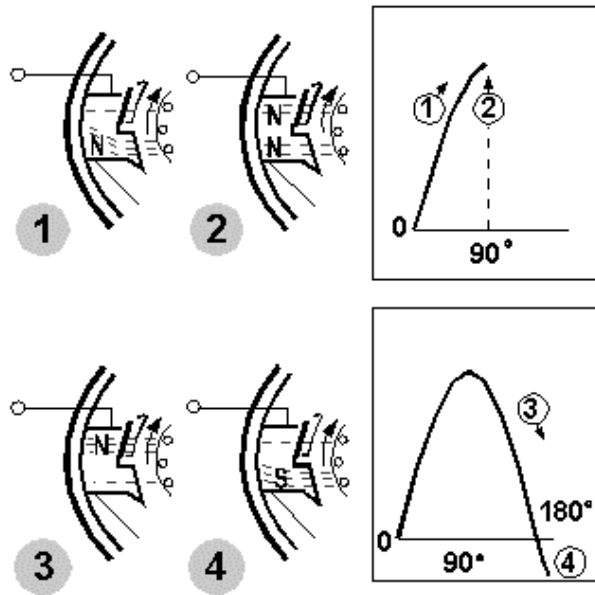

Figure 4-13.—Shaded poles as used in shaded-pole ac induction motors.
The shaded-pole induction motor is another single-phase motor. It uses a unique method to start the rotor turning. The effect of a moving magnetic field is produced by constructing the stator in a special way. This motor has projecting pole pieces just like some dc motors. In addition, portions of the pole piece surfaces are surrounded by a copper strap called a shading coil. A pole piece with the strap in place is shown in figure 4-13. The strap causes the field to move back and forth across the face of the pole piece. Note the numbered sequence and points on the magnetization curve in the figure. As the alternating stator field starts increasing from zero (1), the lines of force expand across the face of the pole piece and cut through the strap. A voltage is induced in the strap. The current that results generates a field that opposes the cutting action (and decreases the strength) of the main field. This produces the following actions: As the field increases from zero to a maximum at  $90^\circ$ , a large portion of the magnetic lines of force are concentrated in the unshaded portion of the pole (1). At  $90^\circ$  the field reaches its maximum value. Since the lines of force have stopped expanding, no emf is induced in the strap, and no opposing magnetic field is generated. As a result, the main field is uniformly distributed across the pole (2). From  $90^\circ$  to  $180^\circ$ , the main field starts decreasing or collapsing inward. The field generated in the strap opposes the collapsing field. The effect is to concentrate the lines of force in the shaded portion of the pole face (3). You can see that from  $0^\circ$  to  $180^\circ$ , the main field has shifted across the pole face from the unshaded to the shaded portion. From  $180^\circ$  to  $360^\circ$ , the main field goes through the same change as it did from  $0^\circ$  to  $180^\circ$ ; however, it is now in the opposite direction (4). The direction of the field does not affect the way the shaded pole works. The motion of the field is the same during the second half-cycle as it was during the first half of the cycle.